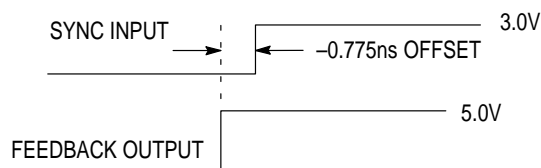

Figure 2. Depiction of the Fixed SYNC to Feedback Offset (t_{PD}) Which is Present When a 470KΩ Resistor is Tied to VCC or Ground
4. A $1 \text{ M}\Omega$ resistor tied to either Analog V_{CC} or Analog GND as shown in Figure 2 is required to ensure no jitter is present on the MC88915 outputs. This technique causes a phase offset between the SYNC input and the output connected to the FEEDBACK input, measured at the input pins. The t_{PD} spec describes how this offset varies with process, temperature, and voltage. The specs were arrived at by measuring the phase relationship for the 14